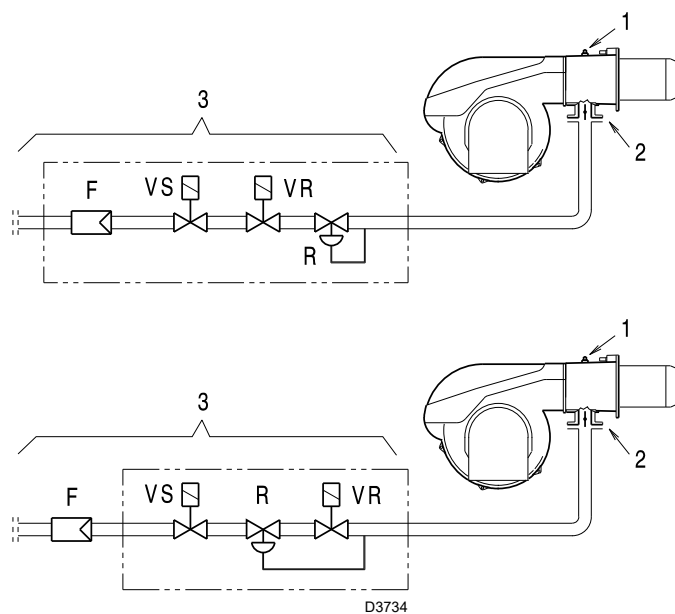

Fig. 23
Gas pressure measured at test point 1)(Fig. 23), with:
Pressure loss at gas butterfly valve 2)(Fig. 23) with maximum opening: 90°.
- subtract the combustion chamber pressure from the gas pressure measured at test point 1)(Fig. 23).
To calculate the required gas pressure at test point 1)(Fig. 23), set the maximum modulating output required from the burner operation:
- read, on the right (column 1), the pressure at the test point 1) (Fig. 23).
pressure required at test point 1)(Fig. 23).